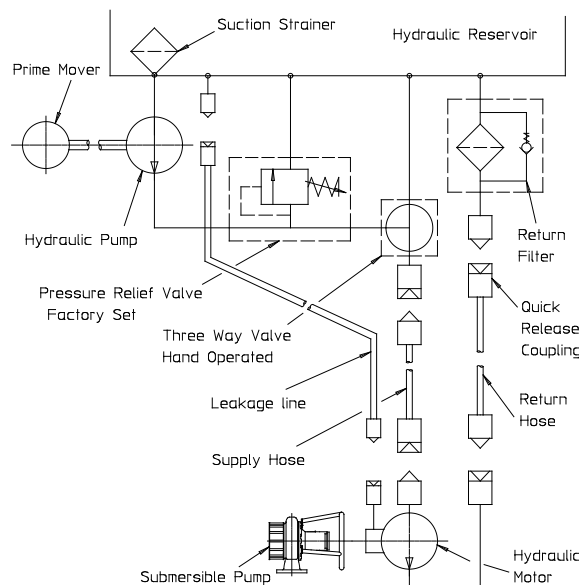
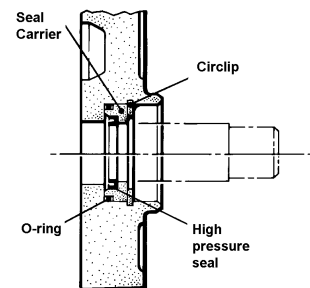

Figure 1 Hydraulic system schematic
Figure 4 Typical motor front seal arrangement
A Xylem Dewatering Solutions supplied system is fitted with male and female quick release couplings at all terminal points to prevent incorrect connection. A typical system illustrating this is shown in Figure 1.
The bearings (and mechanical seal for HS80 units) of HS80, HS100, HS150, HS100-SG, HS150V, HS150V-SG, HS100NC and HS150NC pumps are designed to be lubricated and cooled by the hydraulic motor system oil. The oil is bled from the motor by removing the seal from the front cover. A typical motor front cover arrangement is shown in Figure 4. Removing the circlip allows the seal and O-ring to be withdrawn. On some pumps the seal is fitted from the inside of the front cover. In these cases the front cover will need to be removed prior to removing the seal. Note that this oil is returned to the hydraulic reservoir by a separate leakage line (see Figure 1).
1. Before starting a system, the three-way valve (see Figure 1) is turned to direct the flow back into the reservoir.